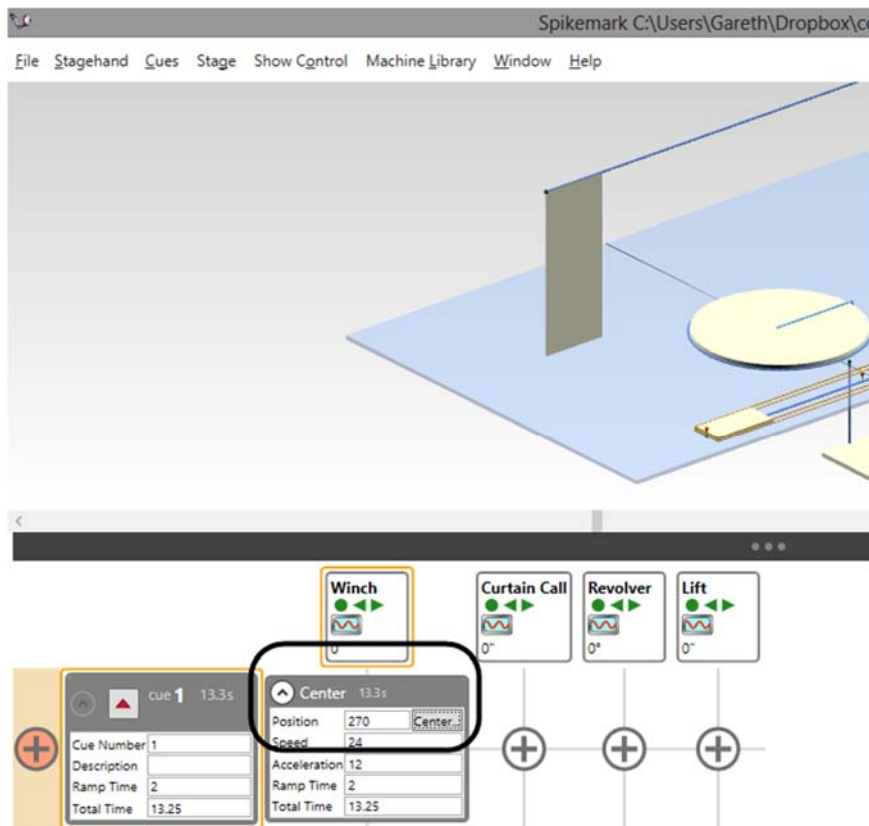

Figure 309
9. The selected Spike will display in the motor's movement for the cue (Figure 309).